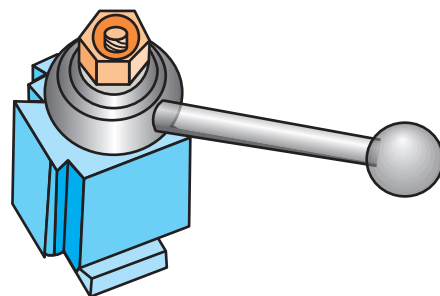

Figure 11-132 Identify this production tool post.
8. Identify the tool post in Fig. 11-132.